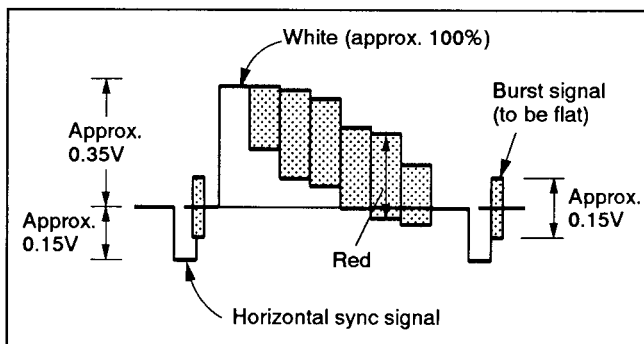

Fig. 9-2. Color Bar Signal of the Pattern Generator
As the video signal obtained from the pattern generator is used as an adjustment signal during electric adjustments, ensure that this video output signal is within the specification. Connect the oscilloscope to pin ② of IC151 on the VS-95 board, and check that the amplitude of the sync signal of the video signal is approximately 0.15V, the amplitude of the video section is approximately 0.35V, the amplitude of the burst signal is approximately 0.15V and flat, and that the level ratio of the burst signal and the [red] signal is 0.30: 0.66. The video signal (color bar) used for electric adjustments is shown in Fig. 9-2.